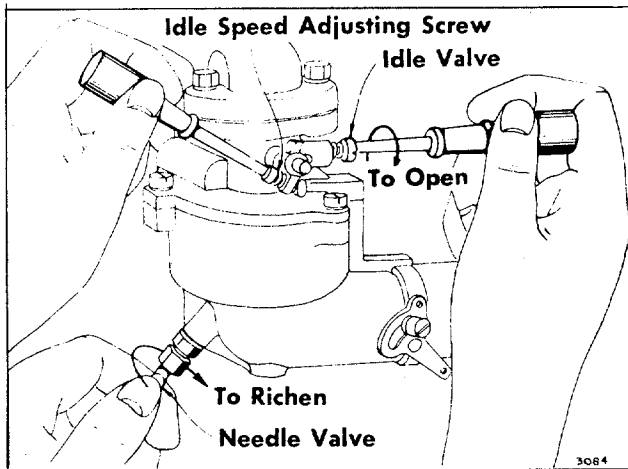

FIGURE 40. CARBURETOR ADJUSTMENT
- Step 1. Remove the two belt guards on the deck pulleys. (See figure 40.)
The fuel shut-off valve is located under the gasoline tank and is opened by turning it counter-clockwise. See figure 40.